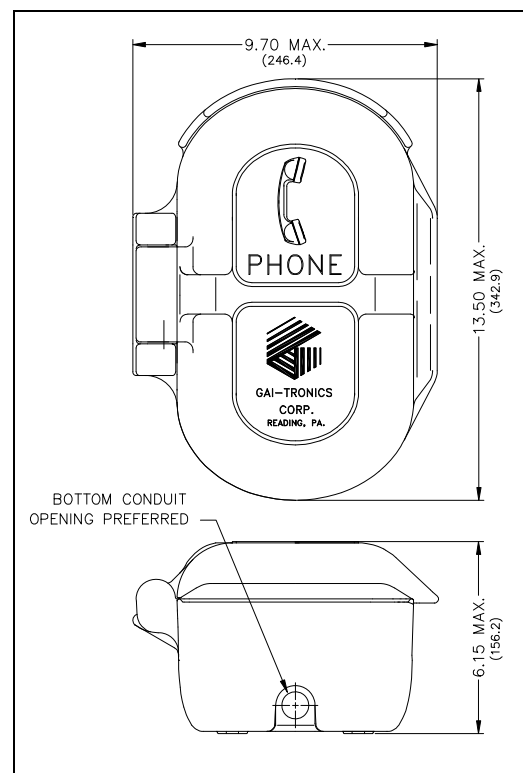

Figure 4. Model 227-005 Outline
5. Install a conduit fitting in one of the 1/2-inch NPT conduit entrances provided at both the top and bottom of the unit, and insert the conduit into the fitting. (The bottom location is preferred. See Figure 4.) Plug the unused access hole using the 3/8-inch Allen drive plug provided.